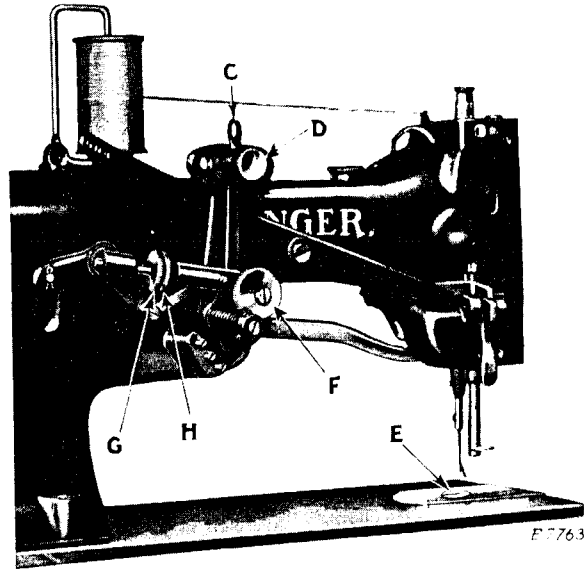

Fig. 11. Machine Adjusted for Flat Embroidery
Many pleasing varieties of flat embroidery work can be produced on this machine. The needle can vibrate toward the right, or toward the left, or zigzag across a central line simply by controlling the hand lever (C, Fig. 11) at the back of the machine. Stitching can be readily varied to any width up to $\frac{1}{2}$ inch by means of the knee lever.
When the machine is fitted for flat embroidery work, no presser foot is used and flat needle plate 233201 (E, Fig. 11) is fastened in position in the throat plate.
Flat embroidery work can also be produced on machines fitted with Madeira Attachment 233212, after removing the presser foot and substituting flat needle plate 233201 for the spur plate, as shown in Fig. 11.
Each form of seam is governed by the lever (C, Fig. 11) at the back of the machine. To move this lever, pull back the lever plunger (D, Fig. 11), press the knee lever and move the lever (C) to the left or right as desired, allowing the lever plunger (D) to enter the hole in the bracket.
When the lever (C, Fig. 11) is in the central position, the lateral vibrations of the needle can be increased or decreased equally on each side of a line central of the stitching.
As the widest needle bar throw is required for flat embroidery, the adjusting spindle (G, Fig. 11) should be placed in the inoperative position shown in Fig. 11.
Set the lever plunger (D, Fig. 11) in the center hole in the bracket at the back of the machine and press the knee lever until the needle vibrates to the desired width of seam. Then tighten the large thumb nut (F, Fig. 11).
The throat plate is retained in position in the bed of the machine by means of springs, so that it may be readily removed when desired. The small, round needle plate 233201 (E, Fig. 11) is held in position in the throat plate by a locking slide located on the underside of the throat plate. To remove the needle plate, draw the locking slide to the left and lift the needle plate out of the recess in the throat plate. When replacing the needle plate, care must be taken to see that the end of the slot in the needle plate is over the pin in the recess in the throat plate and that the locking slide is moved back into position.